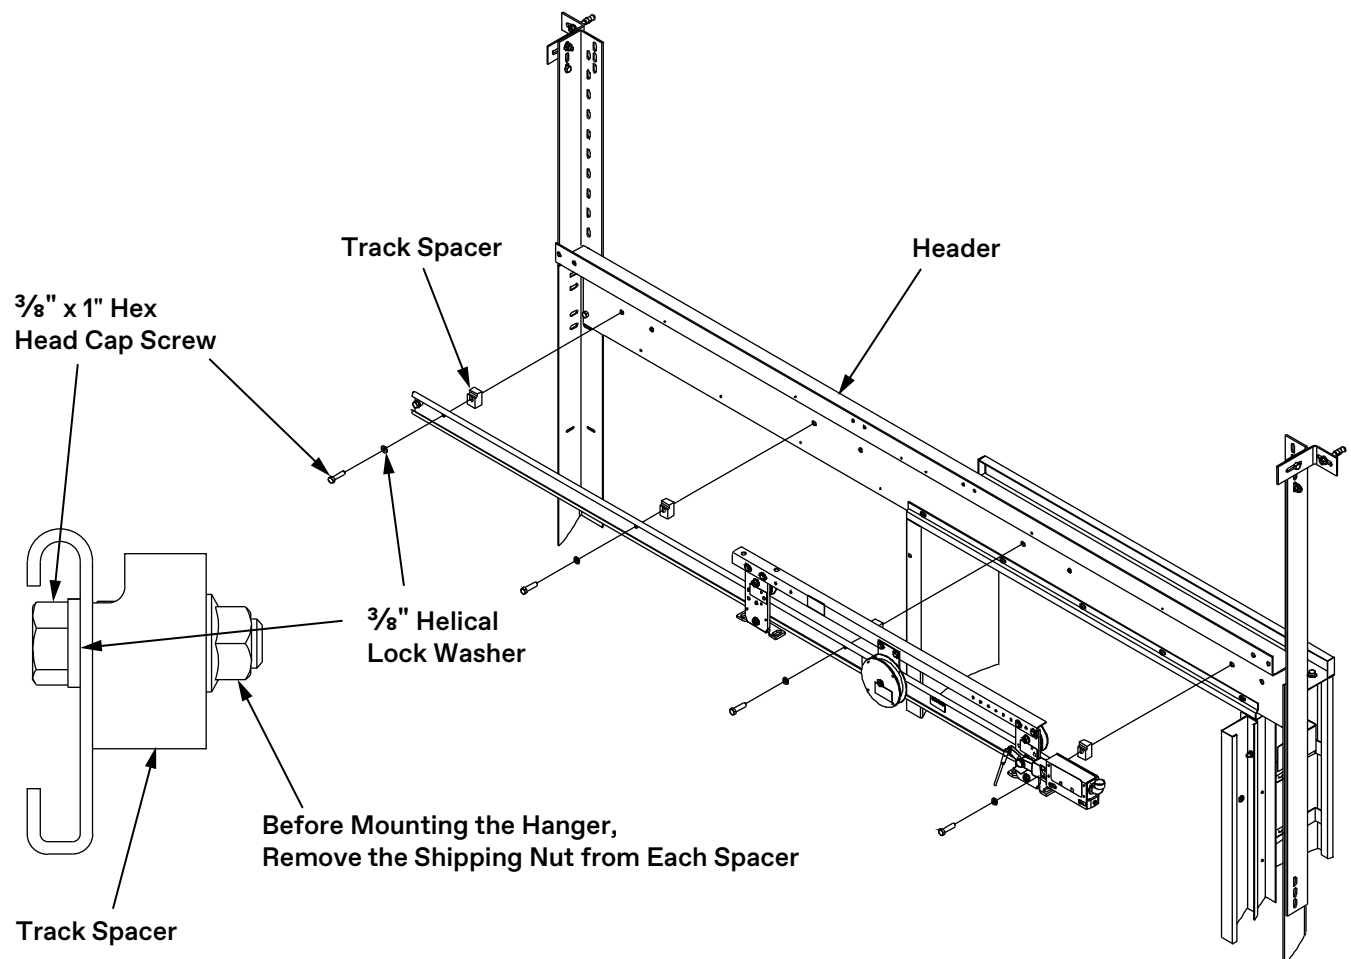

Figure 9 - Install Hoistway Hangers
3. Remove the shipping nuts from the $\frac{3}{8}$ " mounting screws. See Figure 9.